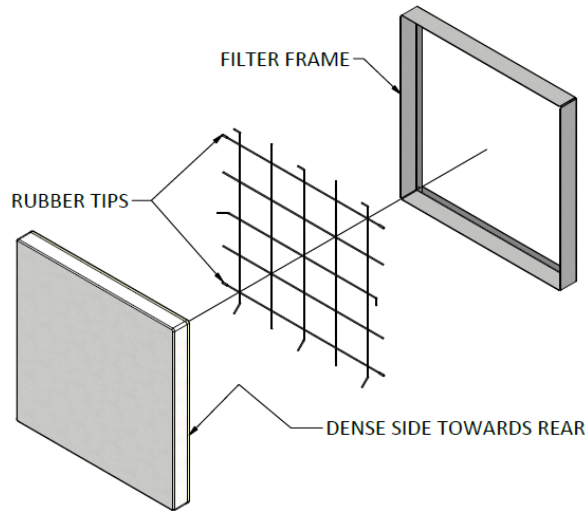

Figure 3 - Exhaust Filter Setup
- Make sure the filters are installed in the correct orientations as shown in Figure 3. The dense yellow side of the filter should be facing away from the direction of airflow.